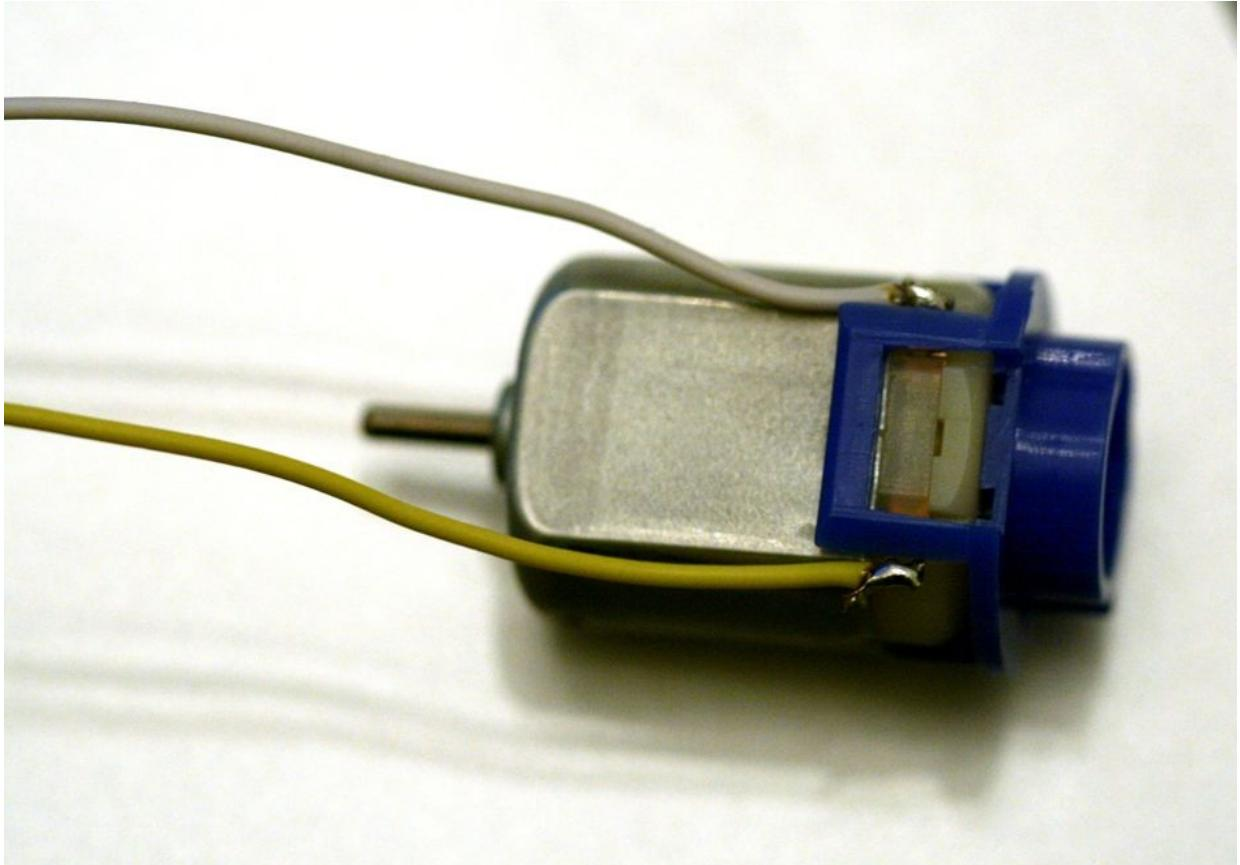

Figure 3-6. Clip the ring onto the motor
1. Place the blue plastic ring over the white end of the motor, making sure the clip is on the side with the wires. The clip should fit snugly over the little protrusion on the side of the motor. See Figure 3-6.